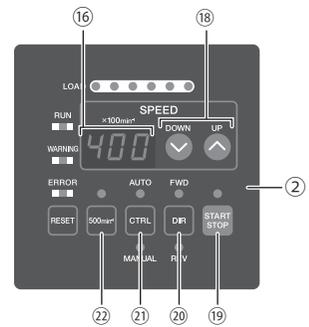

Fig. 25
15 - 1 Selecting Control Mode (MANUAL / AUTO). (Select the control button (CTRL) ⑳ of the Fig. 25.)
- (1) Using the CONTROL (CTRL) Button you can select between Manual (Front panel control) or Auto (External Signal Source) modes. External Signal Source can be used to control Motor Start / Stop, Rotation Direction, Motor Speed etc. from an external control source (CNC).
- (2) When operating with the CONTROLLER Control Panel, push the Control Button (CTRL) of Fig. 25 and select MANUAL. The Manual LED will illuminate.
When operating from an External Signal Source, push the Control Button (CTRL) of Fig. 25 and select AUTO. The AUTO LED will illuminate.
- (1) Set Motor Rotating Direction (Set the Rotation Direction Button (DIR) ⑳ of the Fig. 25.)
- (2) Set 500 min⁻¹ (rpm) Centering Rotation (Set the 500 min⁻¹ Button ㉒ of the Fig. 25.)
- (3) Motor Start / Stop (Motor Start / Stop by pushing the Start / Stop Button (START / STOP) ⑲ of the Fig. 25.)
- (4) Setting Motor Speed (Set the Motor Speed Adjustment Button (SPEED ⚙, ⚙) ⑱ of the Fig. 25.)
Motor Speed Range is 1,000 - 40,000 min⁻¹ (rpm). Maximum motor speed depends on motor and spindle model. Setting parameter P2 to U0 will allow the motor speed to be adjusted in Auto Mode using the Motor Speed Adjustment Button (SPEED , ) 18 of the Fig. 25.